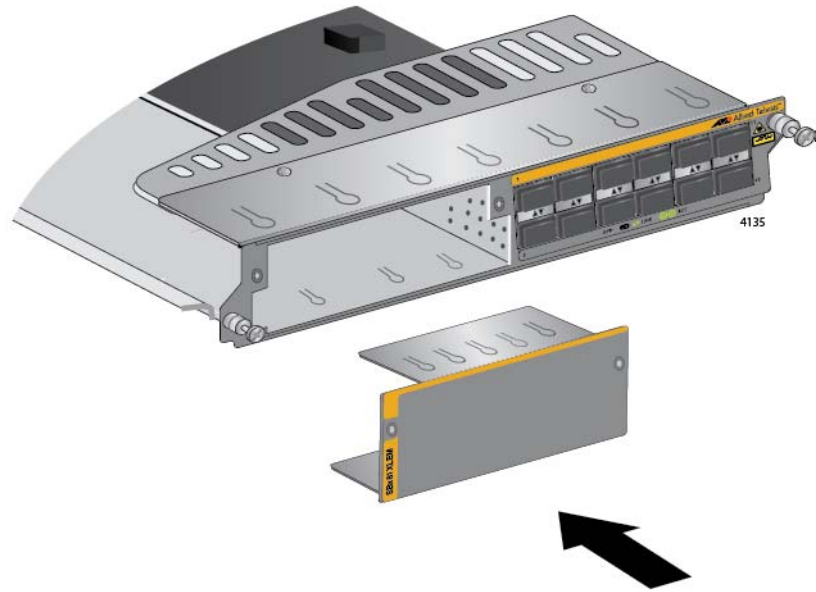

Figure 177. Sliding the Blank Slot Cover into the AT-SBx81XLEM Line Card
9. Slide the blank slot cover that comes with the line card into the slot on the card. Refer to Figure 177 on page 280.